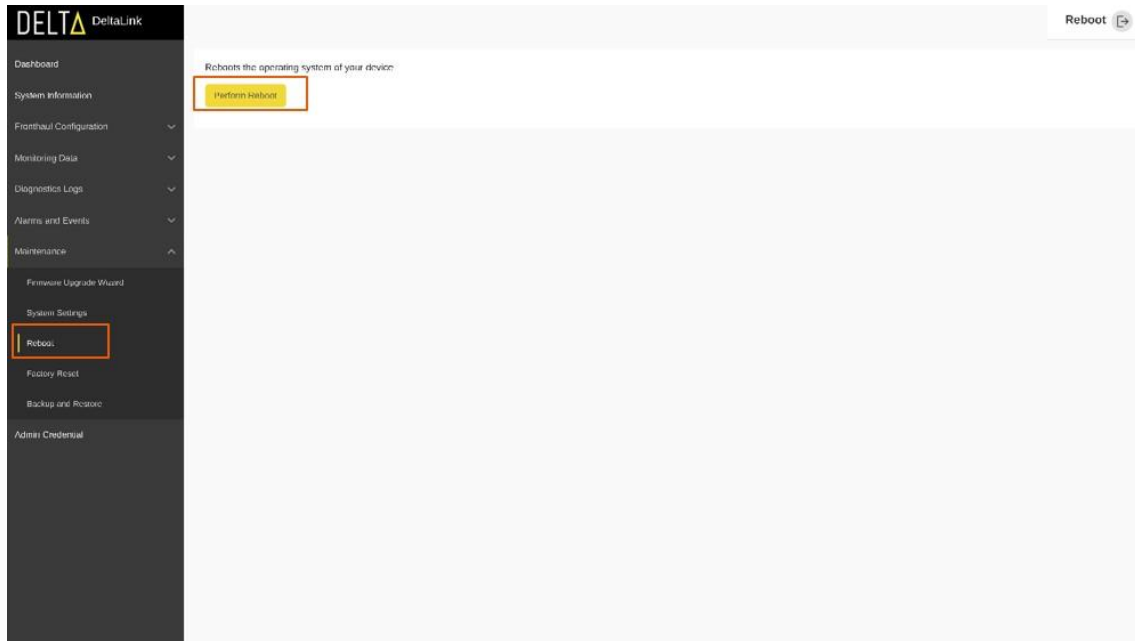

Figure 55 Reboot
- For reboot options, navigate to "Maintenance" and select "Reboot" from the expanded menu as shown in the Figure 55 below.